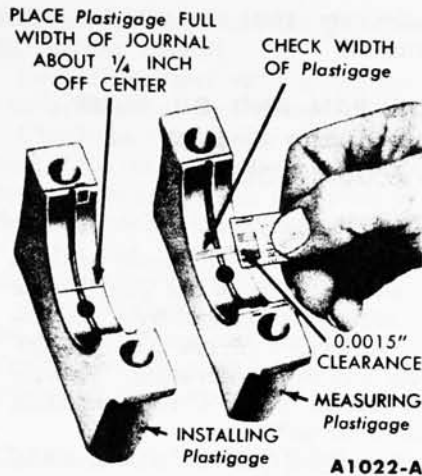

FIG. 22—Installing and Measuring Plastigage—Engine in Chassis
8. Place a piece of Plastigage on the bearing surface the full width of the bearing cap and about $\frac{1}{4}$ inch off center (Fig. 22).